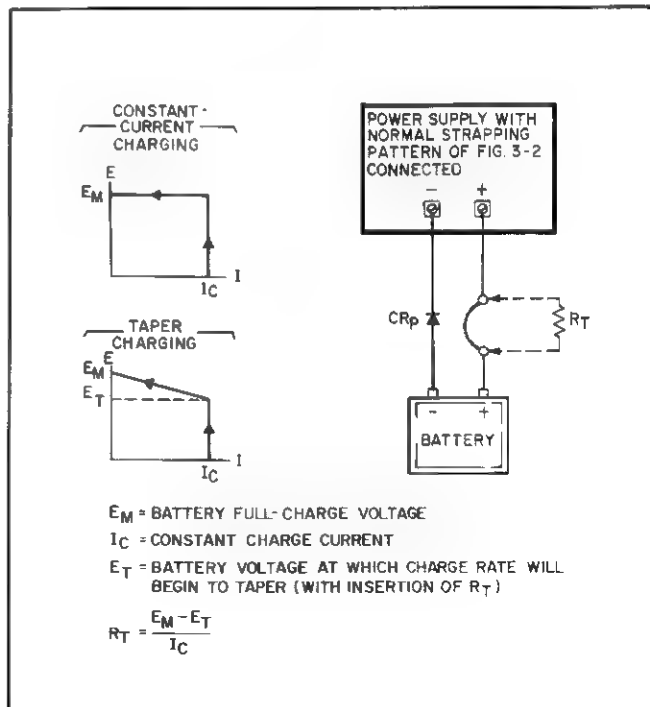

Figure 3-16. Battery Charging
*Any time these supplies are used to charge a battery, be sure to install a protective diode  $CR_p$  in series with the battery as shown in Figure 3-16 to prevent the battery from discharging into the supply if the supply is turned off. Extensive damage to the supply could result if this diode were omitted.*
- Connect a short circuit across the output terminals and rotate the VOLTAGE control fully clockwise (CW).
- Adjust the VOLTAGE control for an output voltage 0.7 volts greater than the desired full charge voltage. (The added 0.7 volts compensates for the drop across  $CR_p$ .) The supply may then be connected to the battery terminals, positive to positive and negative to negative as shown in Figure 3-16 (omit  $R_T$ ).
**3-90 Taper Charge.** When charging lead-acid cells, many manufacturers recommend that the charging current be reduced as the charge nears completion. This can be accomplished by inserting a small resistance ( $R_T$ ) in series with one of the load leads from the supply to the battery. (See Figure 3-16.) This resistor alters the normally rectangular charging plot in such a manner as to provide a taper charge for the last portion of the charge. The proper value for this resistor is the difference between the full charge voltage and the voltage at which the tapering is to start, divided by the initial charging current. Set the initial charging rate and full charge voltage as instructed in paragraph 3-89.